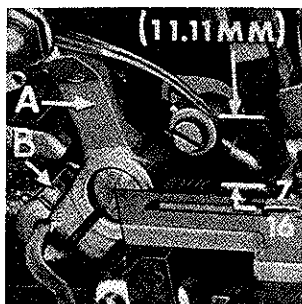

Fig. 3
With throat plate assembled in position needles should center in the front end of needle slot. When needles are at high position, the needle points should be set $\frac{7}{16}$ inch (11.11 mm) above the throat plate (Fig. 3) for Style 39500 RB. For Styles 39500 RC-045 and RC-060 the needle points should be set $\frac{15}{32}$ inch (11.91 mm) above the throat plate. To align needles or set the height above throat plate, move needle driving arm (A, Fig. 3) by loosening clamp screw (B). After needles have been set properly, tighten screw (B) and remove throat plate.